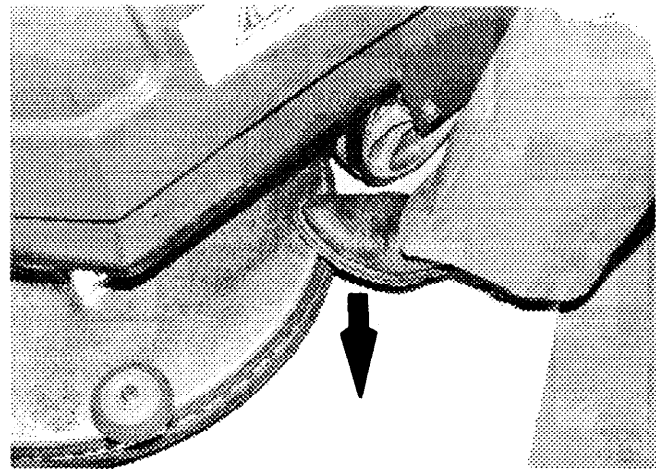

FIG. 2.
2. Tap the right front side of the pad shroud with your toe. The head will rise to the pad mounting position. Figure 2.